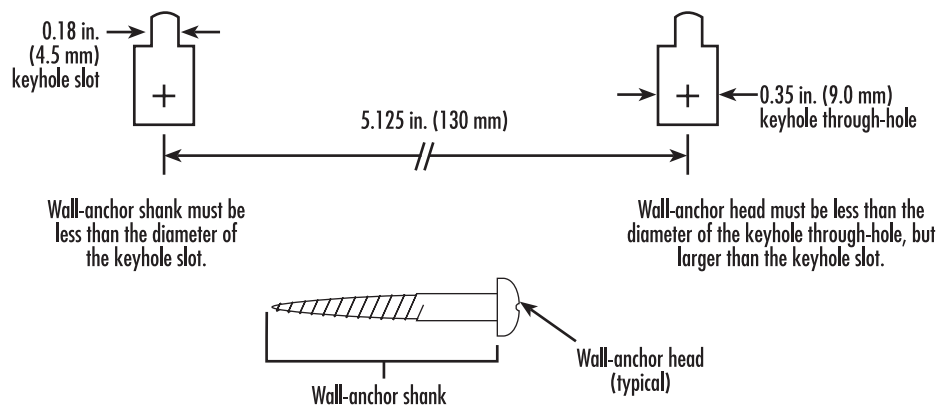

Figure 47. Wall-mounting hole dimensions
1. Using figure 47 as a guide, determine the positions of the mounting holes on the wall and mark the locations of the mounting holes.